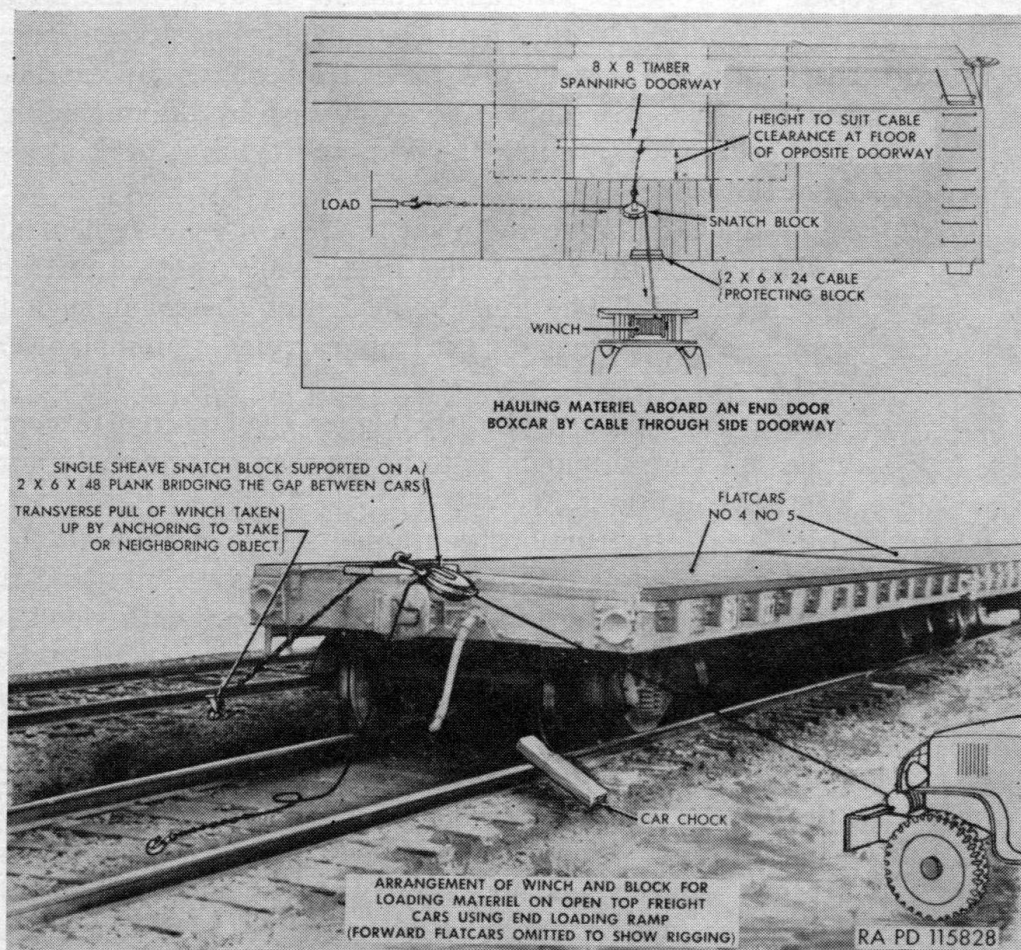

Figure 75. Method of powering the towing cable.
- (f) For powering the towing cable, a vehicle with winch is spotted at *right angles* to the train (fig. 75), located at about the third or fourth flatcar to facilitate signaling and because of cable length limits. A single-sheave snatch block located between cars on the train center line will provide the necessary *lateral* pull. Vehicles passing this point can be towed by a vehicle on the ground with personnel guiding its passage. A long tow cable from the towing vehicle will lessen the tendency of the vehicle to stray from the center line of the train.
winch (fig. 75). Snatch block movement is allowed for low front winches and high rear (wrecker) winches.
- (b) Drop-end gondola cars may be loaded exactly as described for flatcars ((1) above). Height of fixed sides is immaterial. Vehicles may progress through a gondola car by passing over the two inwardly dropped ends and over spanning platforms. Vehicles selected to remain in a gondola car are first moved to the closed end of the car, then spread out for blocking after the remaining end is closed and latched.
- (a) End-door type boxcars are spotted with the door end toward the ramp and loaded as described for flatcars ((1) above) except that loading must be accomplished by pushing the vehicle or towing by cable and block through the side door (fig. 75).